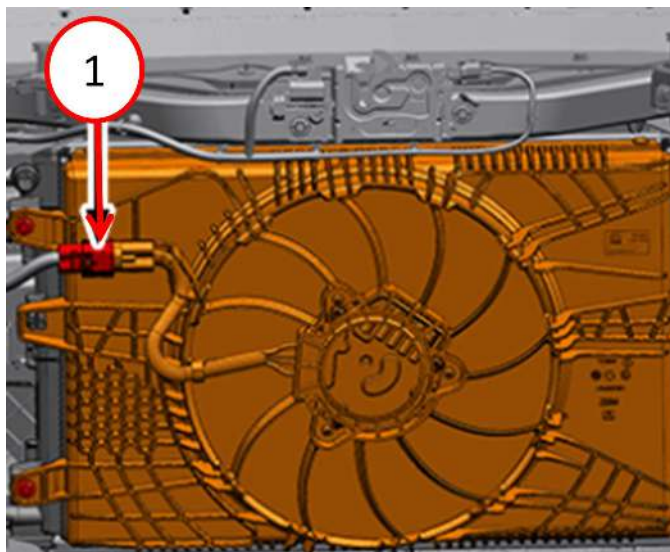

Fig. 1
4. Disconnect the cooling fan wire harness connector Fig. 1.
37. Connect the cooling fan wire harness connector Fig. 1.